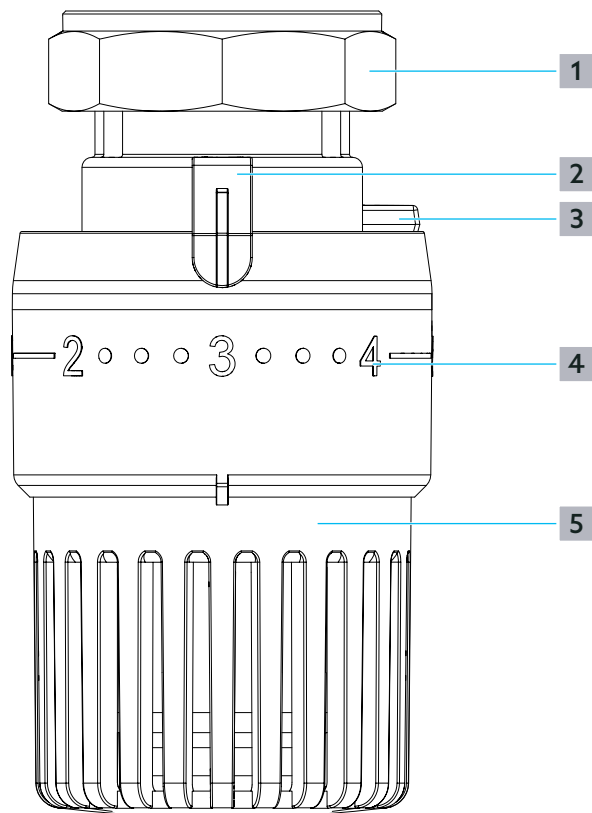

Fig. 1: Design
- 1** Turn the handwheel (position **5** in Fig. 1 on page 5) anticlockwise until figure "5" (position **4** in Fig. 1 on page 5) is aligned with the setting mark (position **2** in Fig. 1 on page 5). This will cause the tappet in the thermostat to be fully retracted.
- 3** Screw the thermostat with the fixing nut (position **1** in Fig. 1 on page 5) onto the thread of the thermostatic valve. Tighten the fixing nut firmly.
- To set the desired room temperature, turn the handwheel (position 5 in Fig. 1 on page 5) until the desired figure (position 4 in Fig. 1 on page 5) is aligned with the setting mark (position 2 in Fig. 1 on page 5).
For the desired room temperature control, the thermostat has two limiting elements (position 3 in Fig. 1 on page 5) with which the comfort range can be set individually.